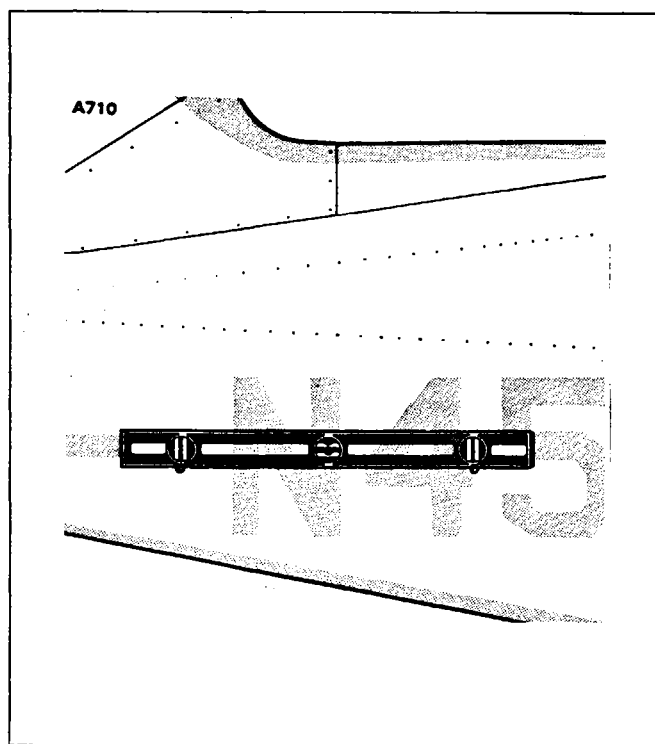

Figure 2-13. Longitudinal Leveling
3. Partially withdraw the two leveling screws located on the right side of the fuselage forward of the stabilator as shown in Figure 2-13.